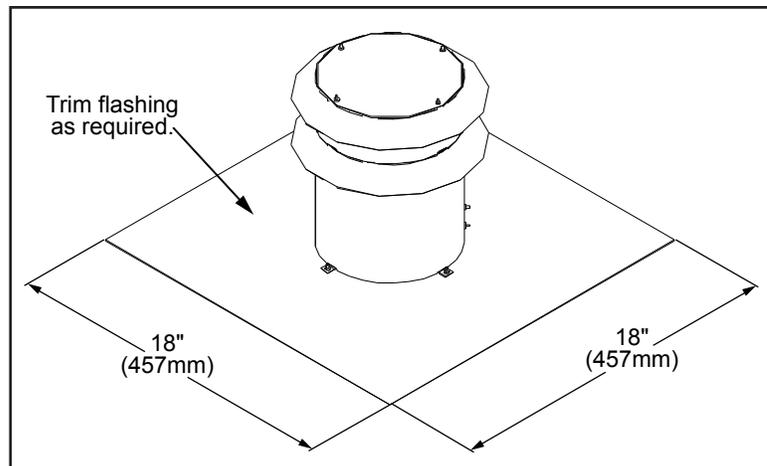

Figure 39: Vertical Vent Cap Dimensions.
4. The Vertical Vent Cap can be installed onto chimneys with flue openings up to 16" (406mm) x 16" (406mm) and the actual flashing is 18"x18" (refer to Figure 39). If the chimney is smaller the cap should be trimmed down and folded over.
5. Apply a bead of Mill-Pac Black sealant to the top section of the Ø3" (76mm) vent collar plate. Slide the Ø3" (76mm) flex vent over the flue collar and secure with three (3) sheet metal screws evenly spaced.